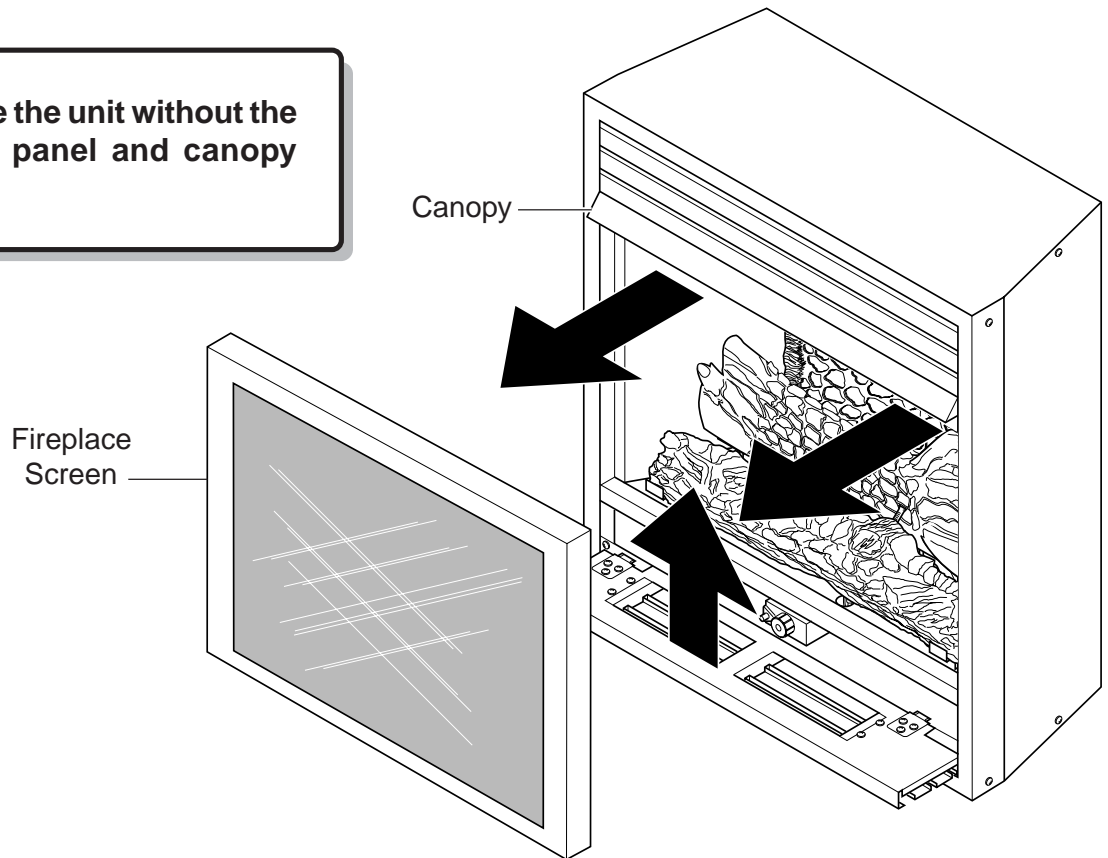

Figure 14 - Removing Fireplace Screen Frame Panel
3. Remove fireplace screen (*See Figure 14, page 14*) and logs.
Removing fireplace screen frame panel by pushing screen frame panel up and out. *Refer Figure 14.*
Ensure that minimum clearances shown in *Figures 14 and 15* are maintained. Left and right clearances are determined when facing the front of the firebox.